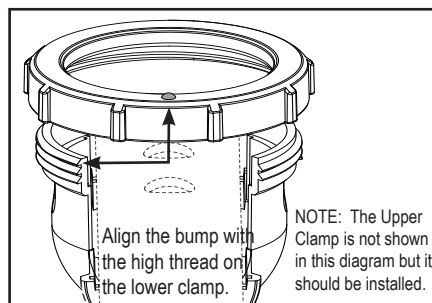

Figure 14. Locking Ring Alignment
13. Position the locking ring in proper alignment, making sure the bump aligns with the top thread (see Figure 14).